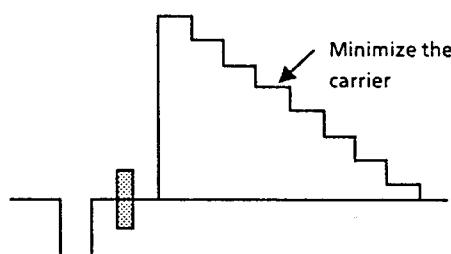

Fig. 4-2
- Adjust VR50 and VR1 so that the carrier on the waveform becomes minimum. (Fig. 4-2)